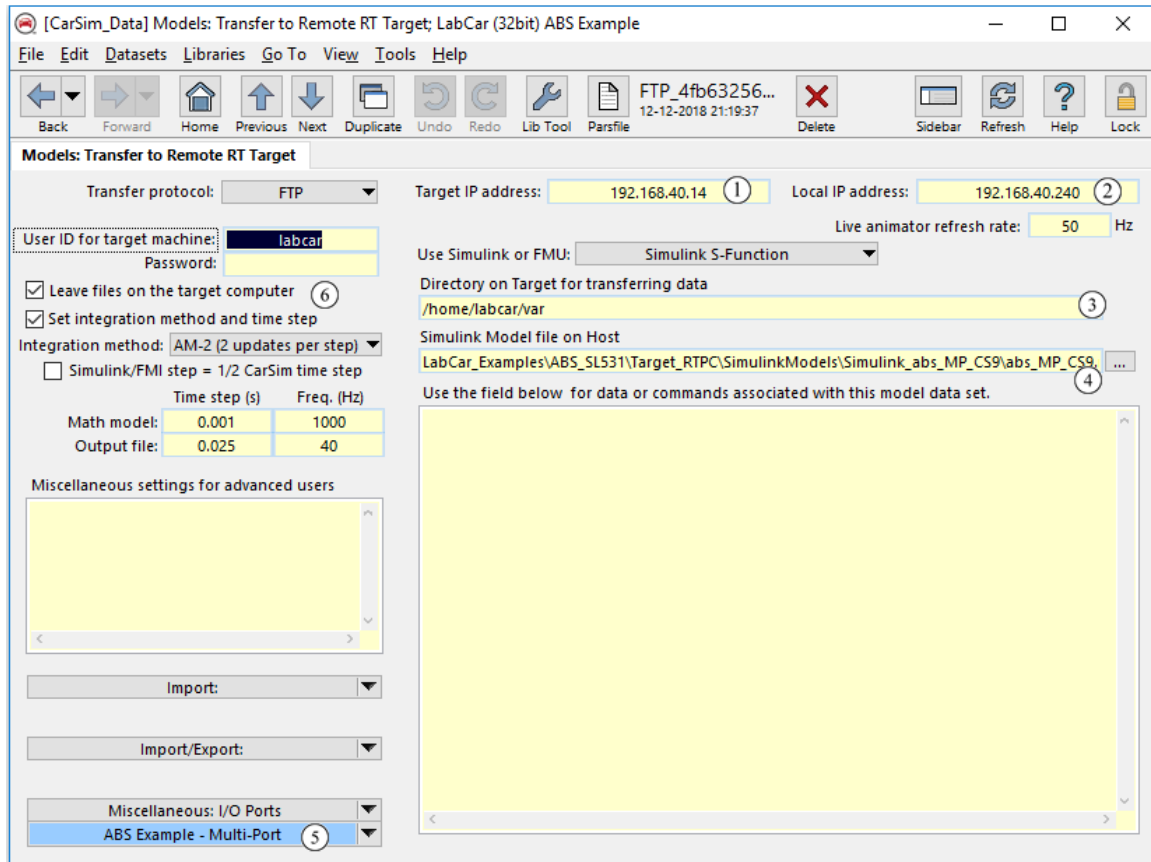

Figure 15. Specification of LabCar project and Simulink model.
4. Click the blue button for the new link to go to the newly created dataset (Figure 15).
5. As shown in Figure 15, the RTPC default login ID is `labcar` and the password is empty. Put target ① and host ② IP addresses for file transfer between host and target on your specific network to enable live animation. The directory on the target is `/home/labcar/var` ③. Specify a Simulink model file ④, and make blue links for import and export datasets ⑤. The Simulink model should be in the place where you created a LabCar project (in Step 2 of Set Up a LabCar Project). In this example, this is: `{CarSimDatafolder}\ETAS_Examples\ABS_Example\Target_RTPC\SimulinkModels\Simulink_abs_MP_CS9\abs_MP_CS9.mdl`